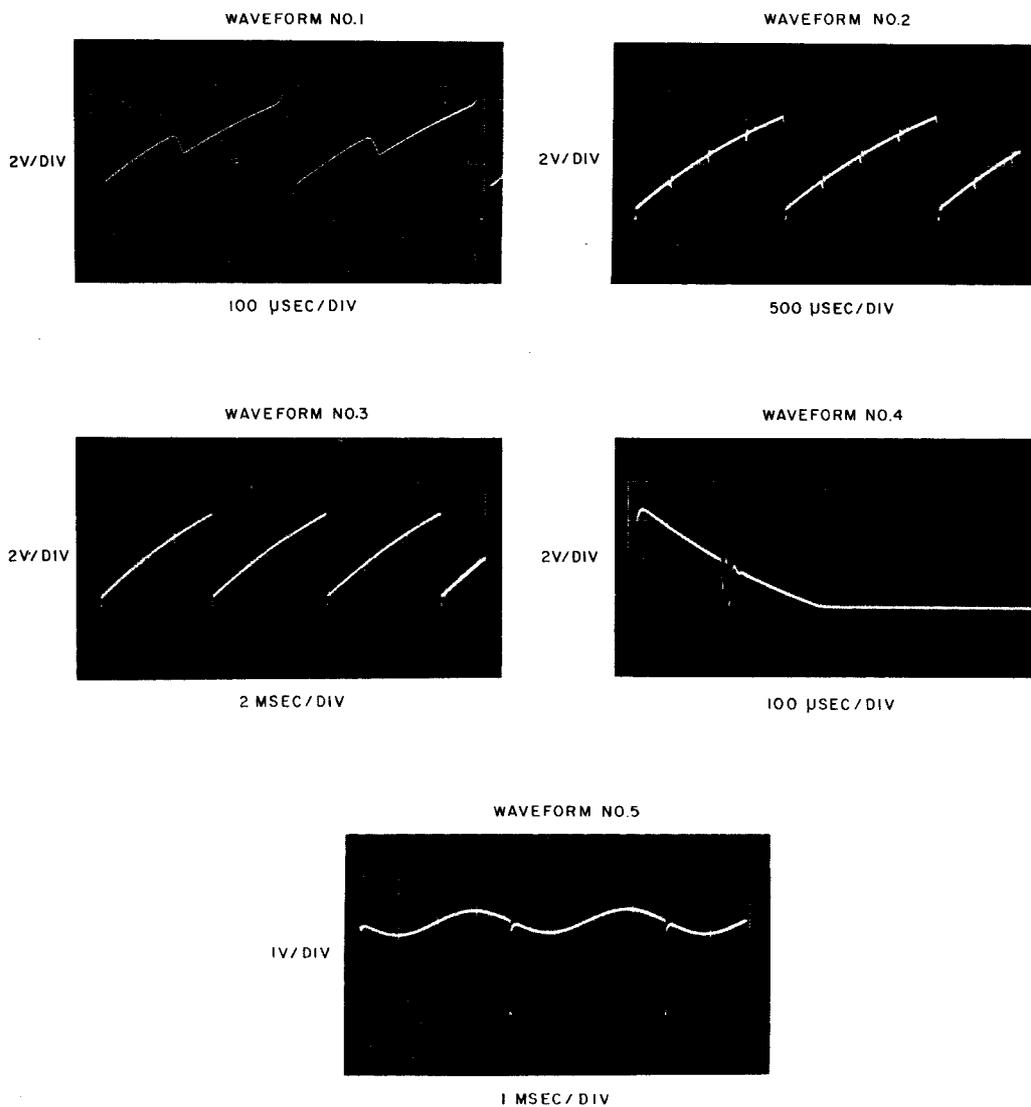

Fig. 10—Waveforms
- 2 Verify that the waveform is as shown in Fig. 10, waveform No. 1.
- 2 Verify that the waveform is as shown in Fig. 10, waveform No. 2. Note that the waveform scale is 500 μ s/cm so that the timing pulses added to the sawtooth waveform are displayed.
- 2 Verify that the waveform is as shown in Fig. 10, waveform No. 3.
- 3 Verify that the waveform at TP 8 (junction of R22 and R23 on timing circuit board CP 2) is as shown in Fig. 10, waveform No. 4, for all positions of the ADD MICROSECONDS control.
5	Verify that the waveform is as shown in Fig. 10, waveform No. 5.